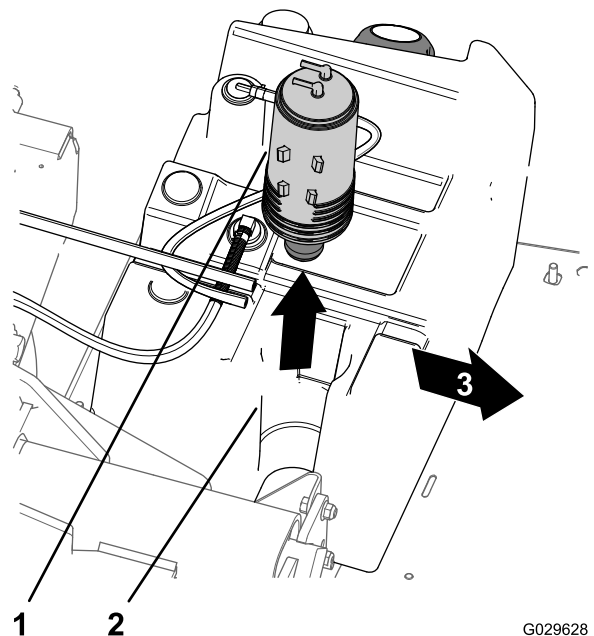

Figure 47
- Lift the carbon canister from the carbon-canister mount in the fuel tank (Figure 47).
7. Insert the new carbon canister into the carbon-canister mount of the fuel tank with the purge and fuel tank fittings aligned rearward (Figure 47).